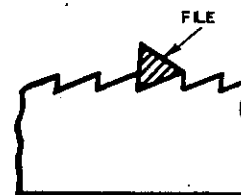

FIG. 13.
4. Sharpening with a sharp cornered file. See Fig. 13.